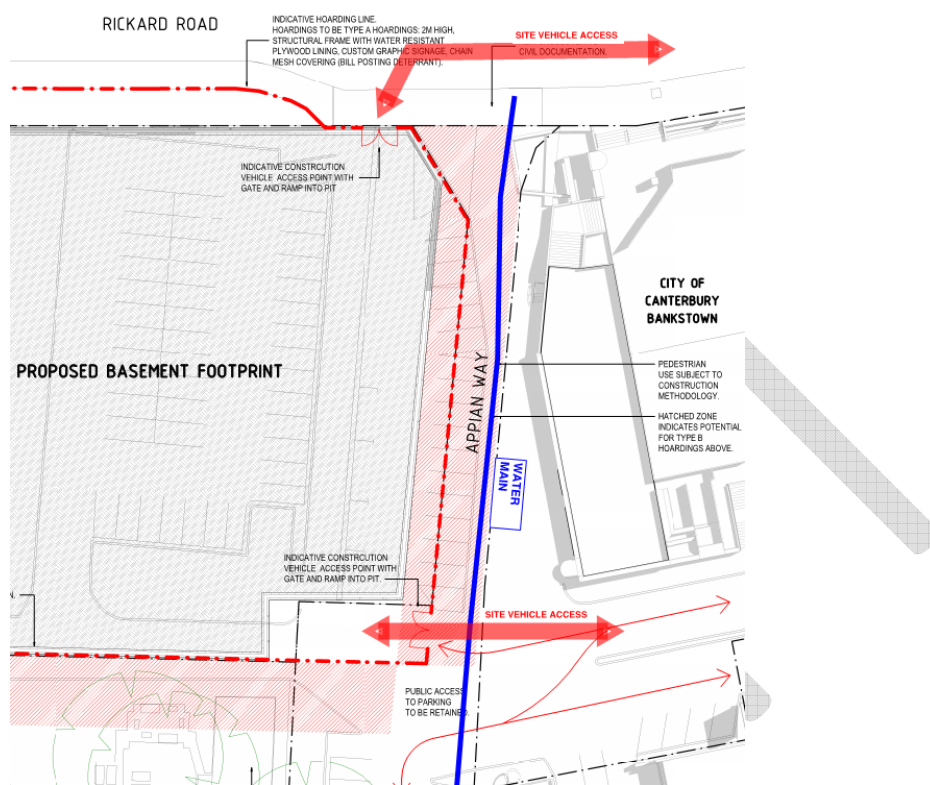

Figure 7-4 Watermain Location
➤ Figure 7-4).
- Figure 7-4 for proposed construction entrances.